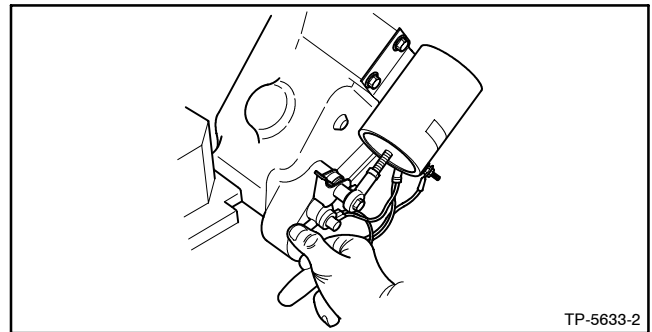

Figure 2-18 Air Damper Lever (Detroit Diesel)
3. If the controller air damper lamp is lit, reset the engine air damper by rotating the air damper lever until the air damper light goes out. See Figure 2-18.